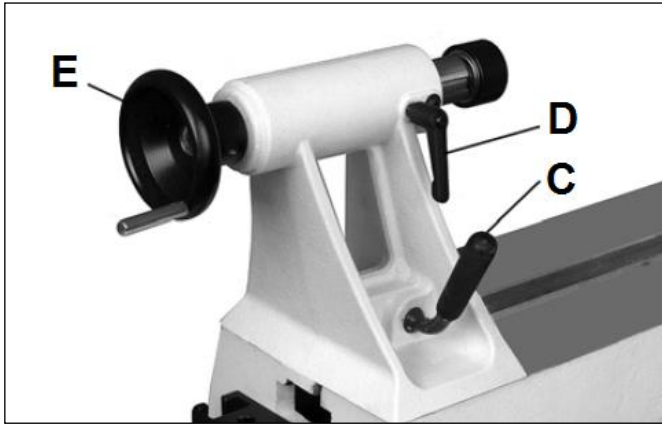

Fig 29
Turn the hand wheel (E, Fig 29) clockwise to move tailstock quill forward. Lock quill with the indexable knob (D).